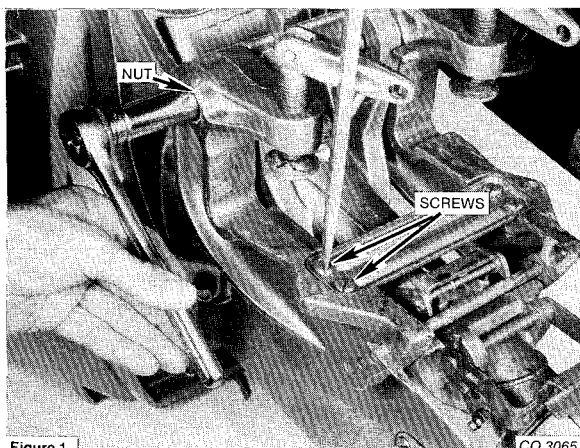

Figure 1.
1. Remove the starboard stern bracket by removing the two screws and tilt bolt nut. See Figure 1.
2. Install stern bracket with two screws and tilt bolt nut. See Figure 1. Tighten nut so tilt friction holds the engine in any tilt position.